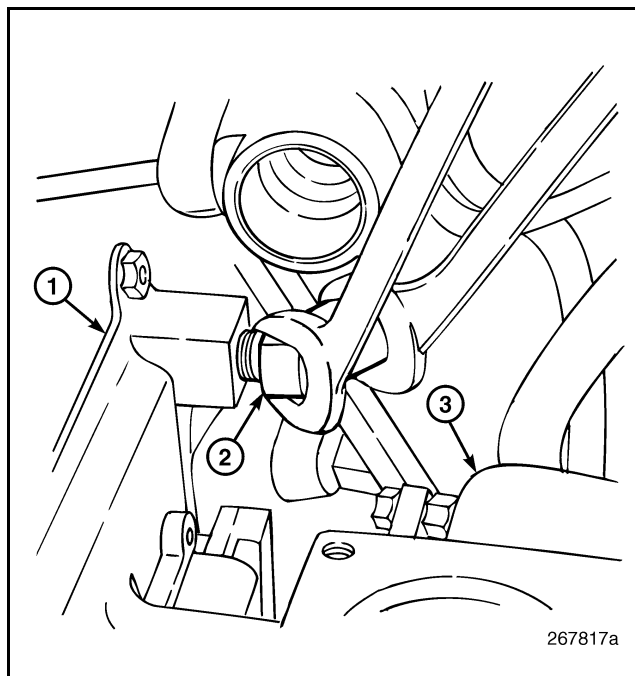

Figure 434 — Cooling Plate Fuel Lines
5. Connect the fuel lines to the inlet and outlet ports of the cooling plate (Figure 434).